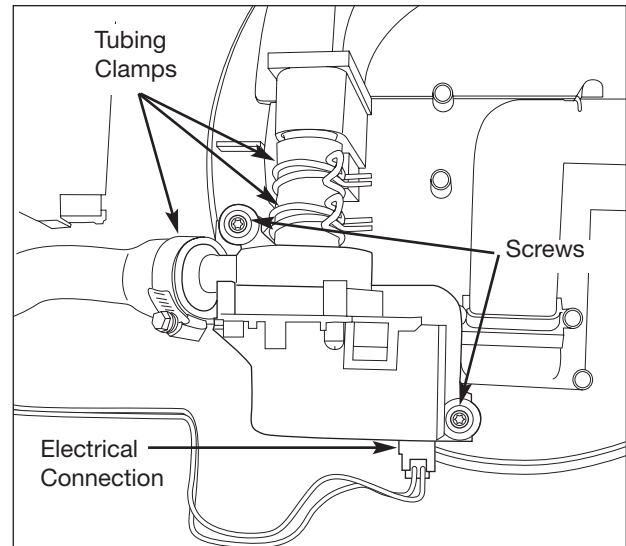

Figure 5-40. Drain Pump Removal
3. Using a flat bladed screwdriver, loosen the tubing clamp from the output end of the drain pump. Pull tubing from drain pump. Use a pliers to remove the spring clamp from the tubing connected to the drain inlet. (See Figure 5-40)